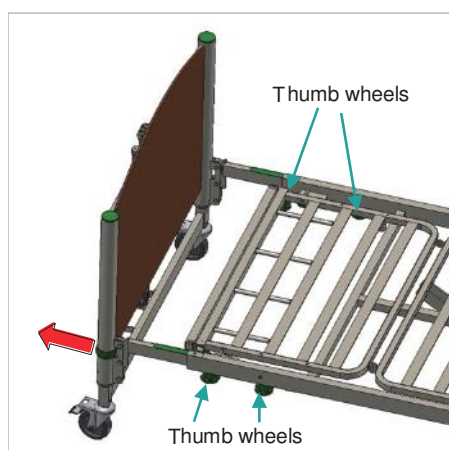

Figure 15: Extending the bed frame
- While holding the foot end near the locking collars pull the bed extension out until it reaches the end stops (Figure 15).